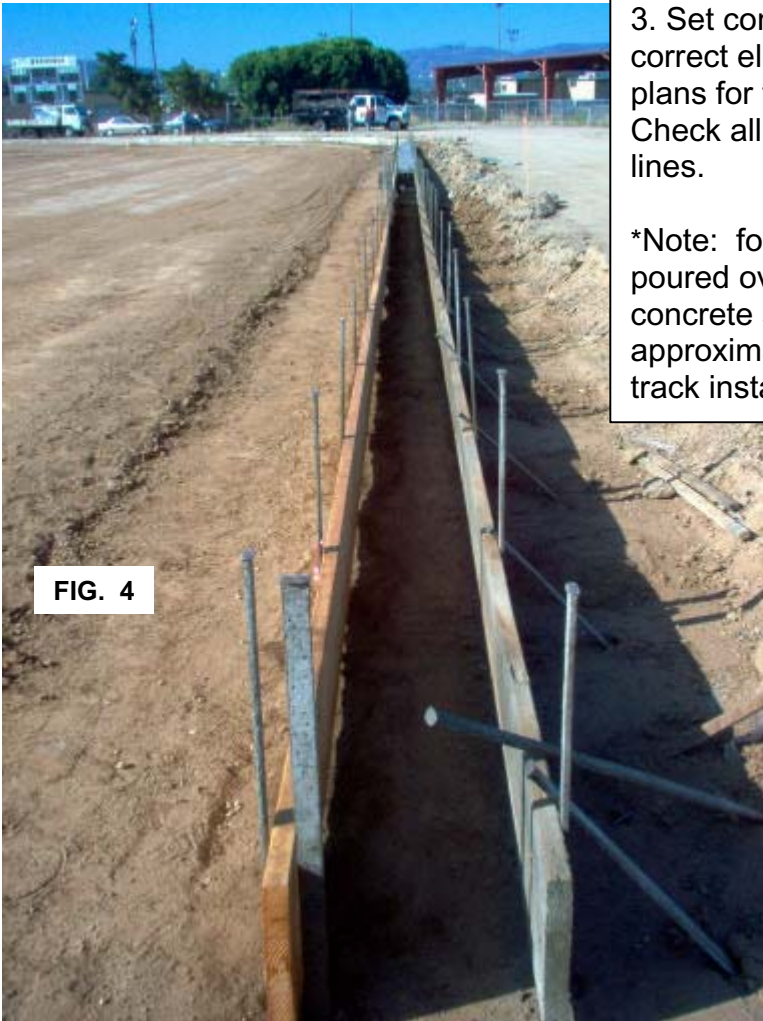

FIG. 4
4. In the straight away, great care should be taken to make sure the concrete forms are set straight. The forms should be reinforced with nail stakes to ensure no movement during the concrete pour. Install stakes as required by local soil conditions (see fig. 4).